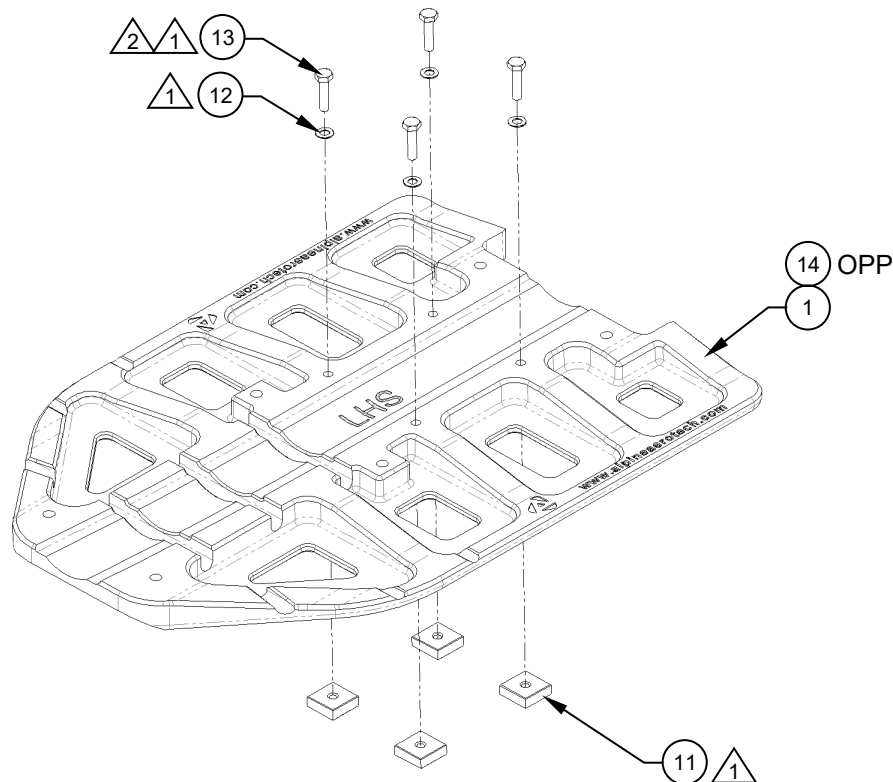

Figure 1
1. Install the Grippers (Item 11) and supplied hardware on the Yeti Paw, Detail (Item 1, 14 OPP) as shown. Ensure all serrated surfaces on the Grippers are facing down (serrations must be common to the ground). Ensure Threadlocker (Item 15) is applied (mandatory). Torque all Gripper fasteners IAW General Note 2. Reference Figure 1.